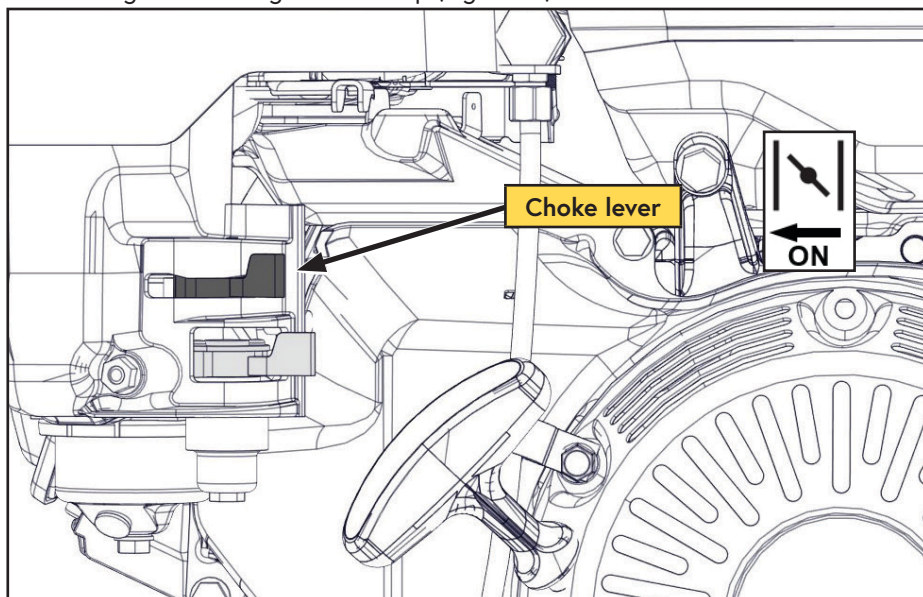

Figure 22 — Choke
- 8) Once the engine is running, gradually open the choke by moving the choke lever to the right as the engine warms up (Figure 22).